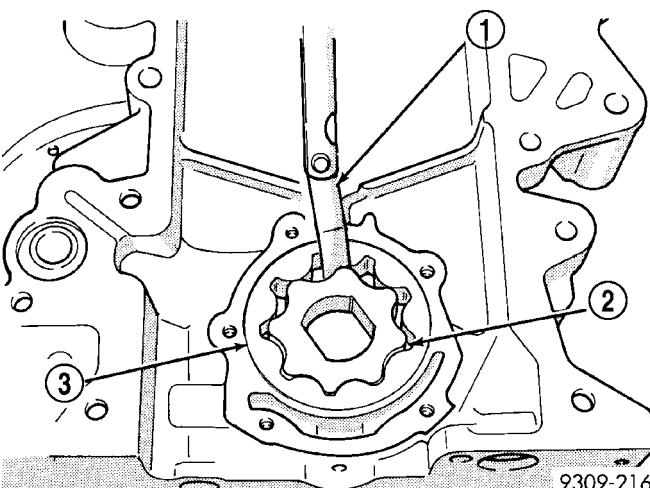

Fig. 111 Measuring Clearance Between Rotors
(6) Install inner rotor into chain case cover. If clearance between inner and outer rotors (Fig. 111) is 0.203 mm (0.008 in.) or more, replace both rotors.